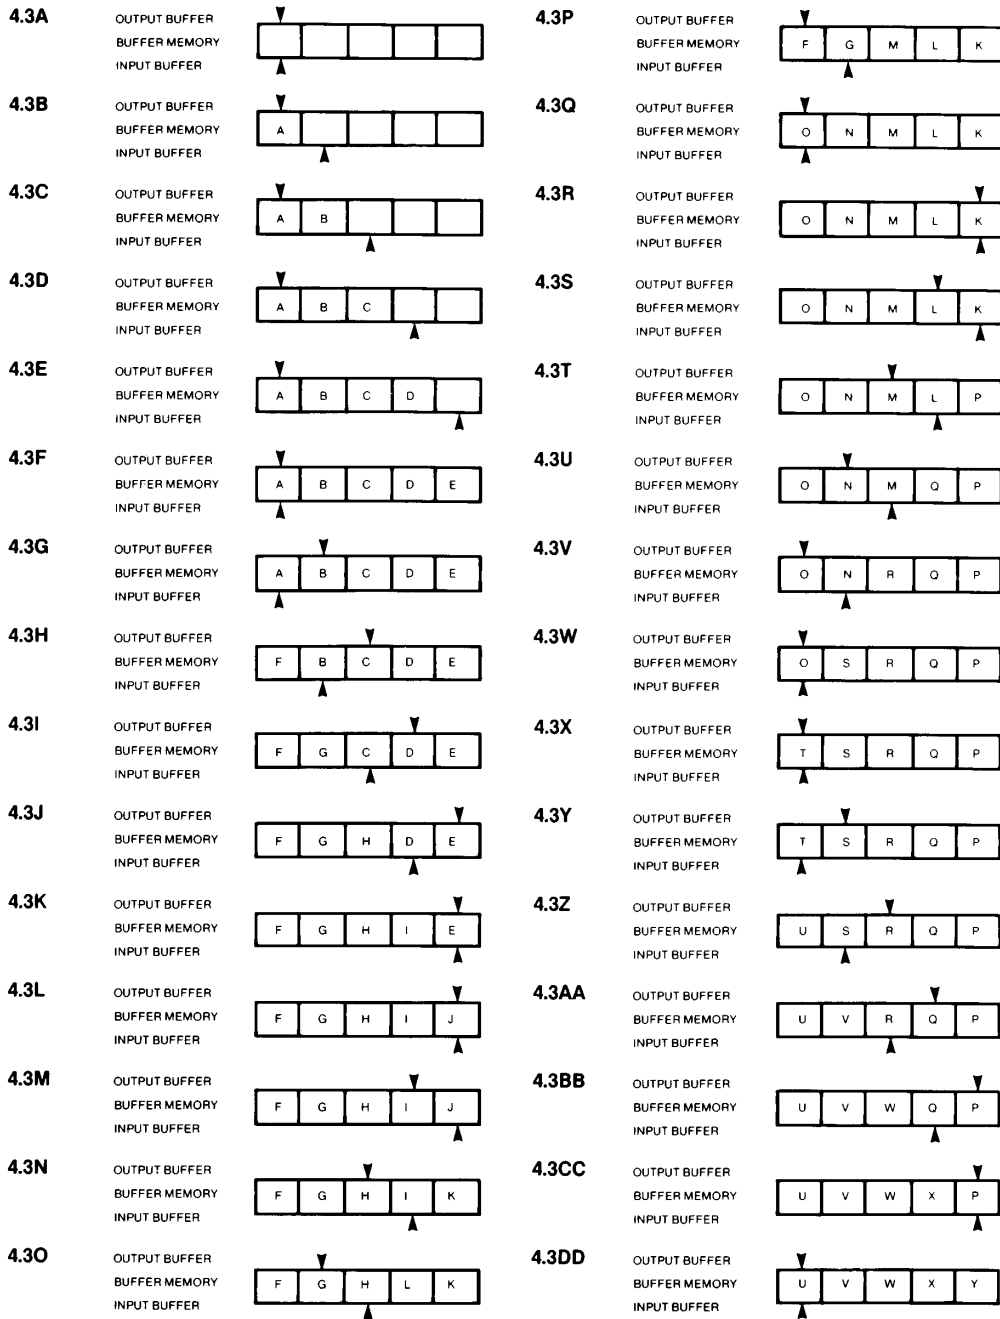

Figure 4.3 I/O Buffer Handler
Since the C. ITOH Model 820 printer is capable of printing in both directions the 80 character buffer must be manipulated in a manner as to allow maximum input-output efficiency. This is accomplished by reversing the "direction" of the buffer memory each time the printer is printing from right to left. For simplicity, if it is assumed that the buffer is only five bytes long, Figure 4.3 can be used to help explain the buffer operation.
Initially the input buffer pointer is loaded with the address of the first location in the buffer memory. As characters are read, the input buffer pointer increments and fills the buffer memory as shown in Figure 4.3(b) through 4.3(f). When a CARRIAGE RETURN-LINE FEED (CRLF) is encountered the input buffer pointer and the output buffer pointer are reset back to the first location. The OUTPUT ROUTINE then reads the character from the first location in the buffer memory, increments the output buffer pointer and calls the INPUT ROUTINE, which reads another character from the parallel input port.
The OUTPUT ROUTINE reads the entire buffer, inserting space codes (20H) after a CR is detected, and the input buffer pointer follows the output buffer pointer as they "increment" up to the buffer memory. When the OUTPUT ROUTINE has printed the last character or space, the output buffer pointer and the input buffer pointer are set to point at the last location of the buffer memory. The OUTPUT ROUTINE then reads the character from the last location of the buffer memory and proceeds to "decrement" down the buffer memory. Space codes are inserted until a CR is found. Figure 4.3(1) to 4.3(0).